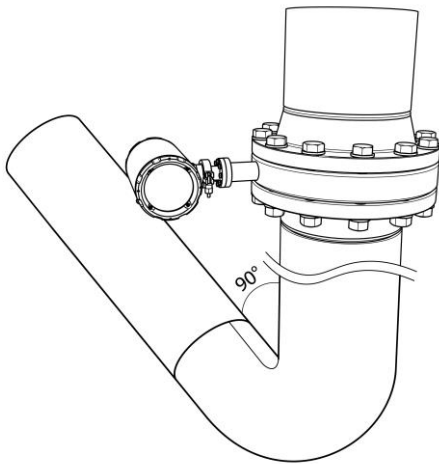

Figure 5-2: Vertical pipe mounting example
- The SDM ECO must be placed in a vertical pipe at an straight (90°) angle in relation to the connected horizontal pipe (Figure 5-2).